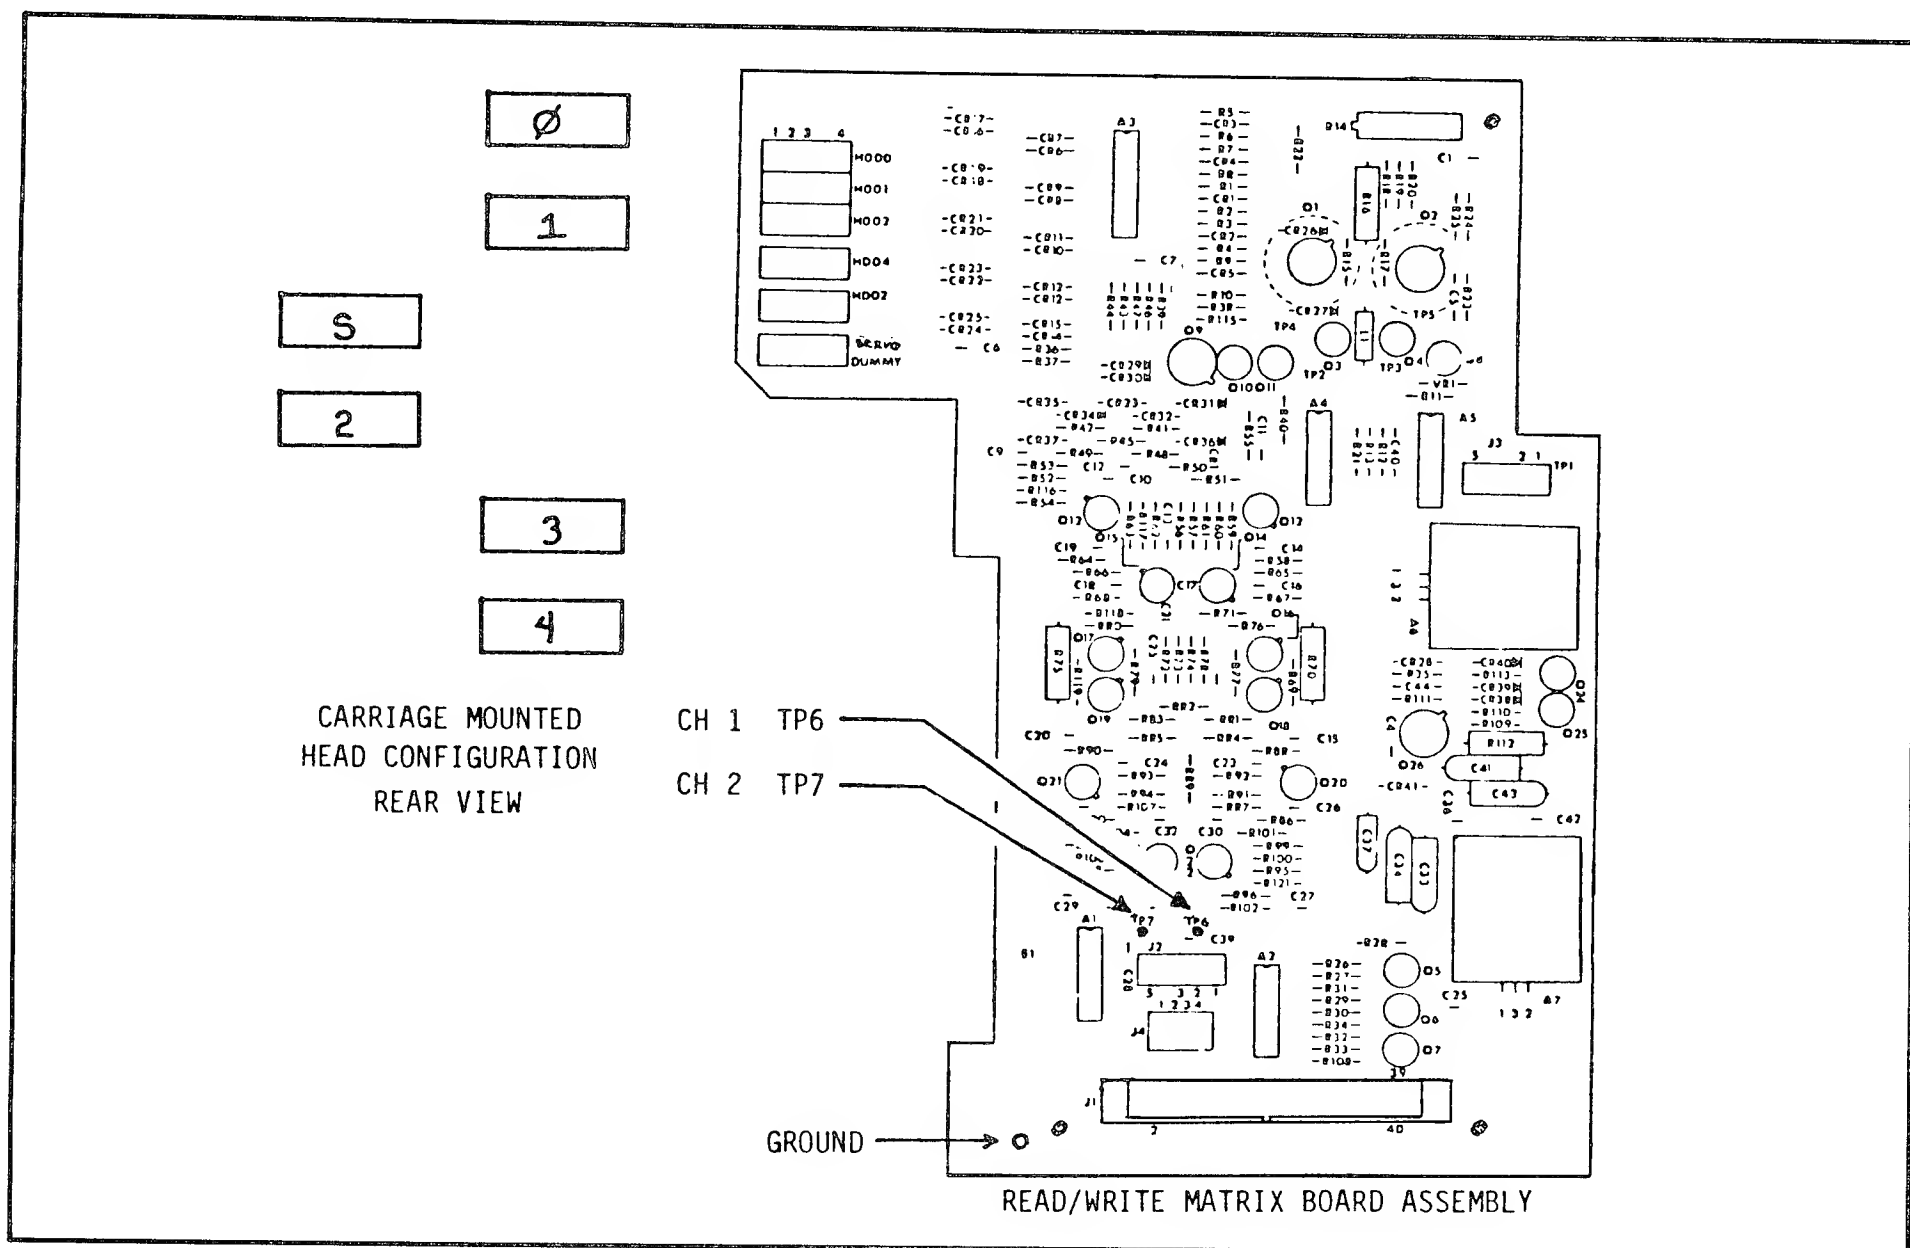

Figure 22. Head Alignment Test Points
4. Connect Channel 1 to TP6 and Channel 2 to TP7 of the read/write matrix board (see Figure 22).